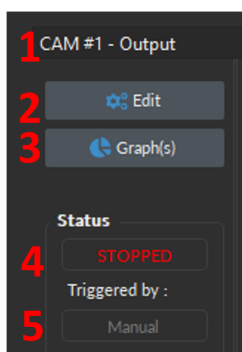

Figure 8.27: Digital I/O View, Control box
The following elements are contained within the **Control Box** of every Digital channel (Fig. 8.27):
1. The **Channel name** (Fig. 8.27, 1) is located on the upper left of the **Control box**, identifying the type of channel and its number, corresponding to that on the OPG.
2. The **Edit** button (Fig. 8.27, 2) opens the **Channel Configuration** window, where parameters can be modified (Fig. 8.28). For details on individual parameters, see Section 8.2.3.
3. The **Graph(s)** (Fig. 8.27, 3) button opens the **Graph Options** window (Fig. 9.36) corresponding to the channel whose graph will be modified. This window allows users to configure the visualization and naming parameters of
4. The **Status** bar (Fig. 8.27, 4) displays acquisition status. **STOPPED** is displayed when the acquisition is inactive, **STARTED** when acquisition is active, and **WAITING...** when the **Master Trigger** is set to *Triggered* (see Section 8.1.2.1, no. 3).
5. The **Triggered by:** (Fig. 8.27, 5) text-box displays the source of the trigger for that channel, which can either be Manual (i.e. selecting the **Record/Live** button) or a specific channel that provides external trigger signal.